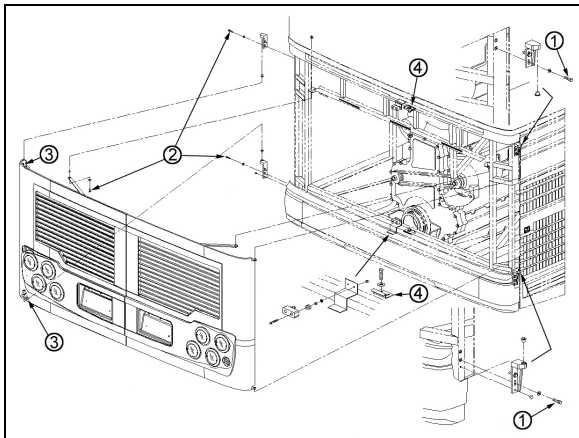

FIGURE 97: ENGINE COMPARTMENT DOORS 18633
1. Loosen the bolts, (1, 2 Fig. 97) holding the hinge to the vehicle structure to shift the door "UP or DOWN".
2. Loosening the bolts (3, Fig. 97) allows the door to be shifted "LEFT or RIGHT" and "IN or OUT".
To adjust the latch mechanism (4, Fig. 97) and the striker pin: